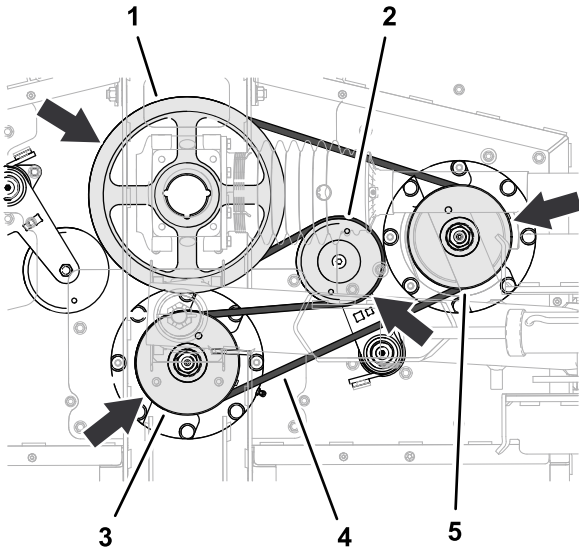

Figure 68
1. Route the long belt around the drive pulley, upper groove of the center-spindle pulley, and right-spindle pulley (Figure 68).
2. Use a breaker bar or similar tool to rotate the belt tensioner counterclockwise and slip the belt over the tensioner pulley (Figure 68).